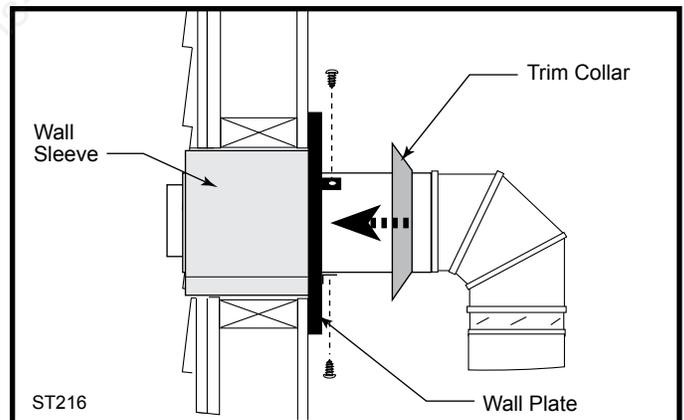

**Fig. 27** Measure the horizontal length.
7. Measure, and cut if needed, the appropriate length of pipe section needed to make the connection through the wall. Include a 2" overlap; i.e. from the elbow to the outside wall face, about 2" or the distance required if installing a second 90° elbow. (Fig. 27)